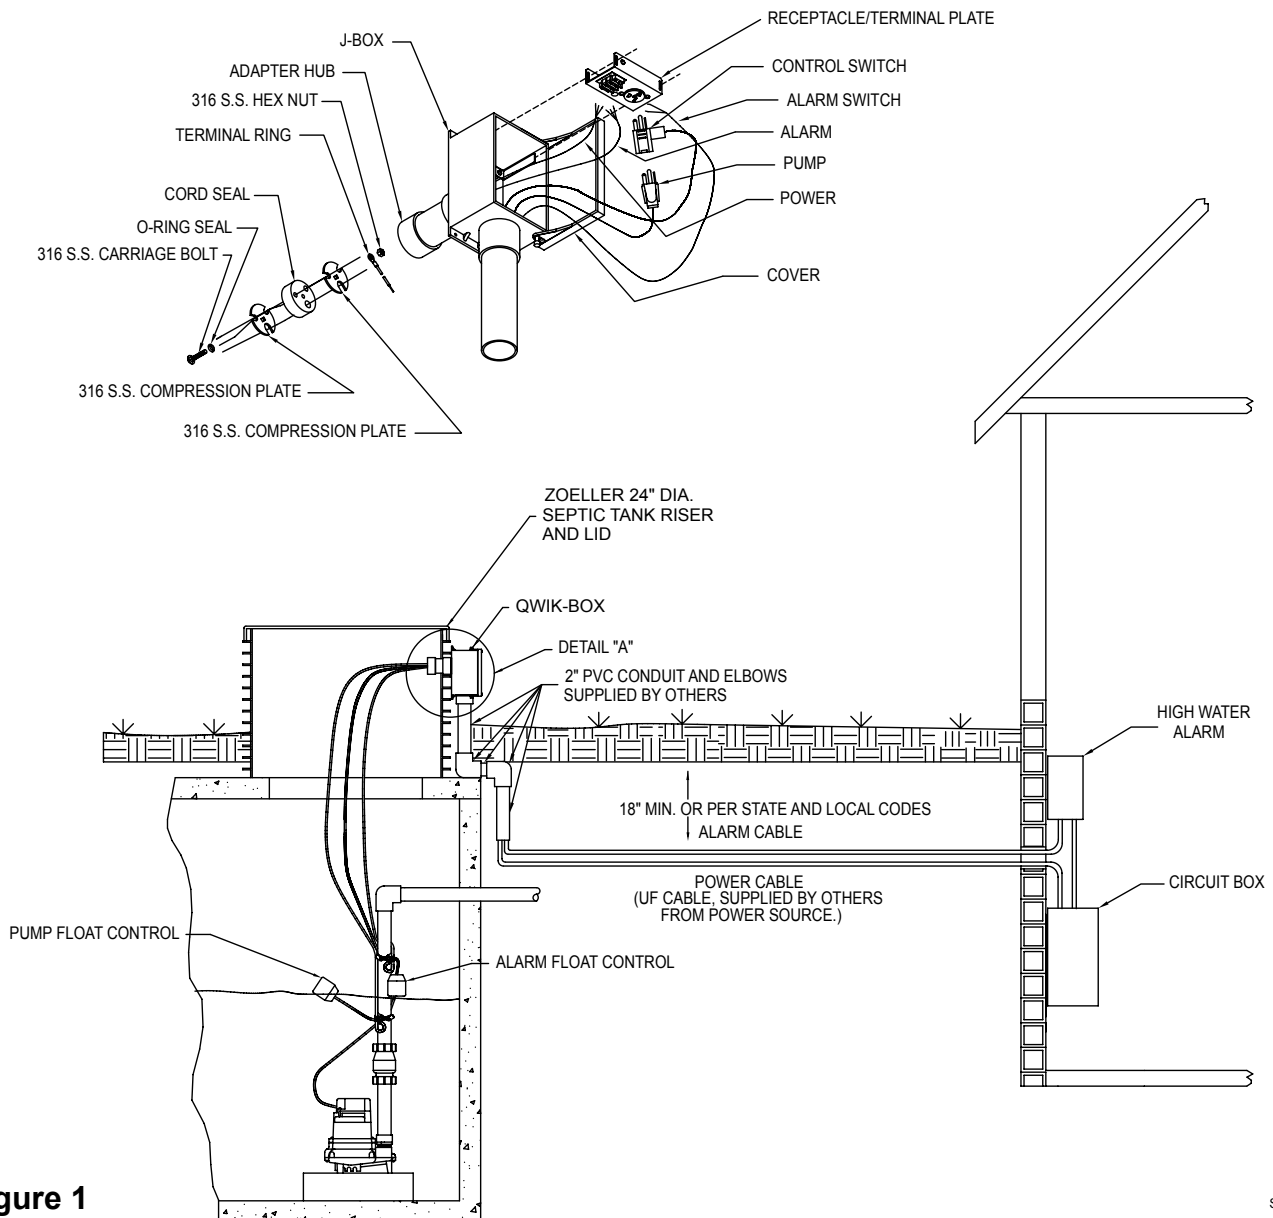
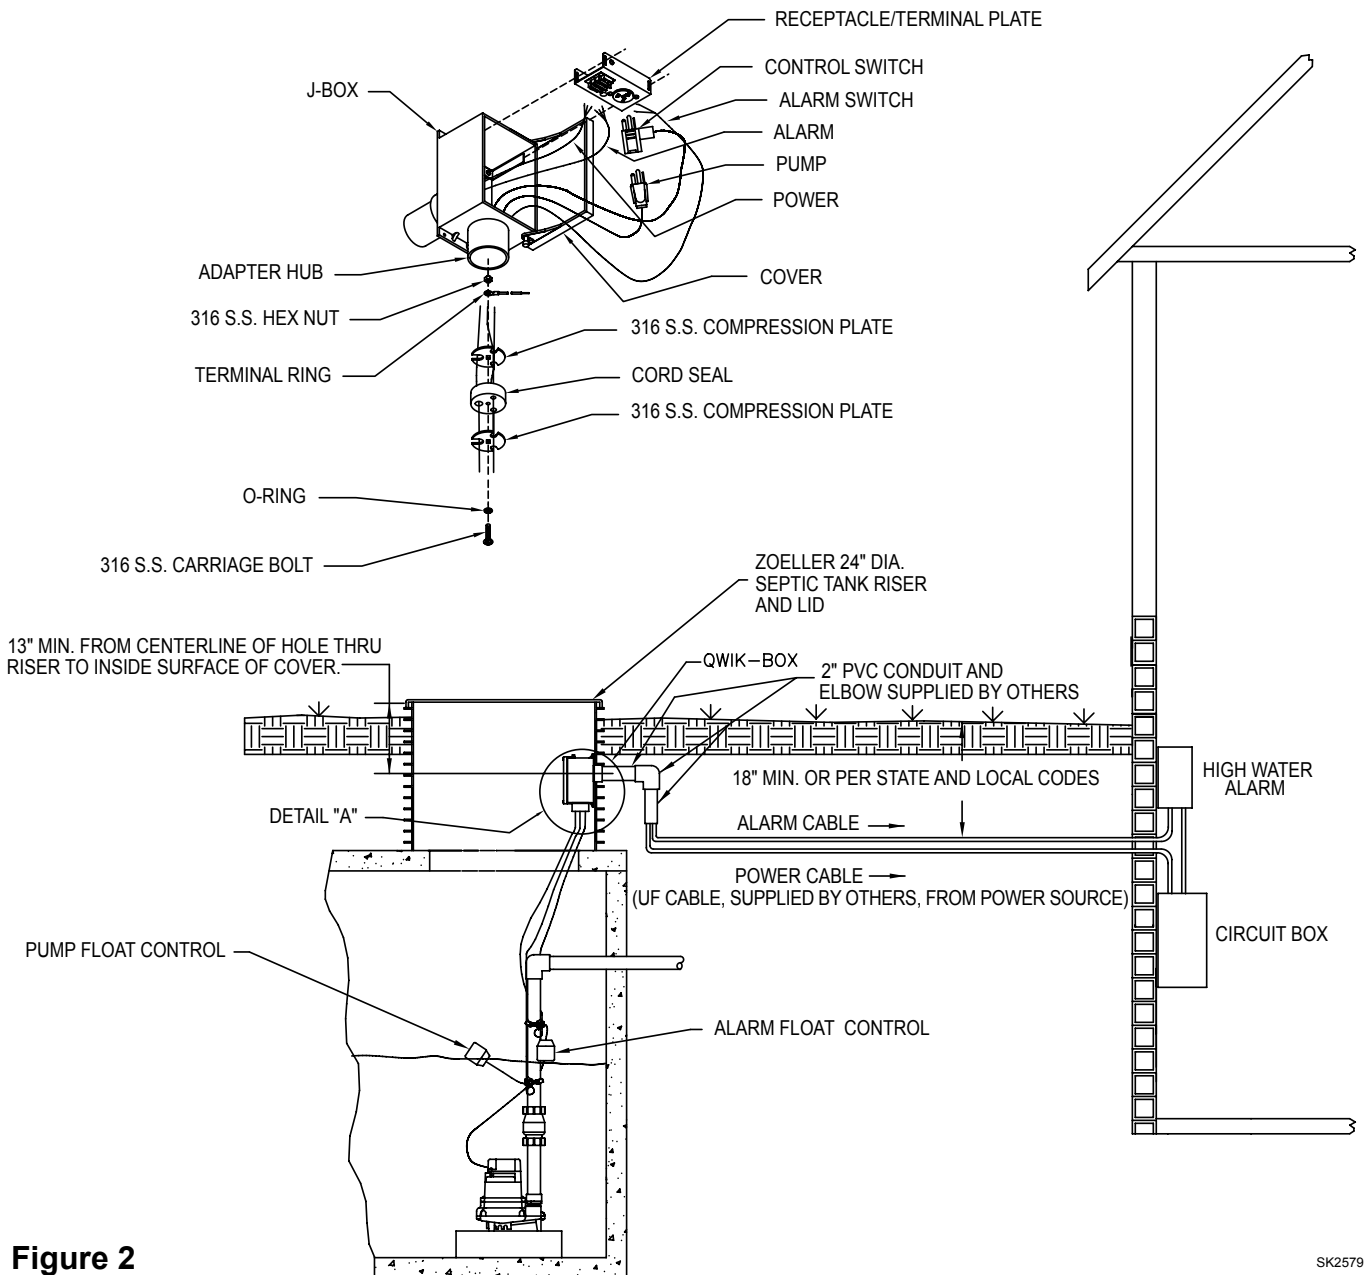

Figure 1
Figure 2
2. Tether pump float control switch to provide the desired "on"- "off" point and the alarm float switch above the "on" point of the pump assembly. (See Fig. 1), or see Installation Instructions with your switch/pump.
3. "QWIK-BOX" is designed for installation either outside or inside the tank riser. Refer to Fig. 1 & Fig. 2.
1. Prepare "QWIK-BOX" for thru wall installation by solvent welding the THIN WALL PVC CONDUIT (supplied w/unit) and a 2" PVC electrical fitting (supplied by others) into "QWIK-BOX" at the appropriate end (see Fig. 1, Detail A). Install PVC conduit on the opposite end of the "QWIK-BOX" to provide for the necessary burial depth of the alarm and power cables. (See Fig. 1) Check local codes for frost line depth.
2. Remove the metal receptacle/terminal plate from the PVC box as shown in Fig. 1.
2. Remove the metal receptacle/terminal plate from the PVC box as shown in Fig. 2.
6. Install sealed conduit assembly thru the riser wall and solvent weld conduit into the "QWIK-BOX" Fig. 2.
4. Pull pump plug, piggyback float switch, and alarm float switch cables through the 2" PVC electrical fitting (supplied by others) and the THIN WALL PVC CONDUIT (supplied) into the "QWIK-BOX" See Fig. 1 Detail A for outside riser installations. Pull pump plug piggyback float switch, and alarm switch cables through the 2" PVC electrical fitting (supplied by others). Fig. 2 Detail A for inside riser installations.
5. Connect the piggyback pump control switch and pump cord into the receptacle as shown in Fig. 1 & Fig. 2. Also connect the black and white wire from the alarm float to terminals (1) and (2) on opposite side of terminal block.